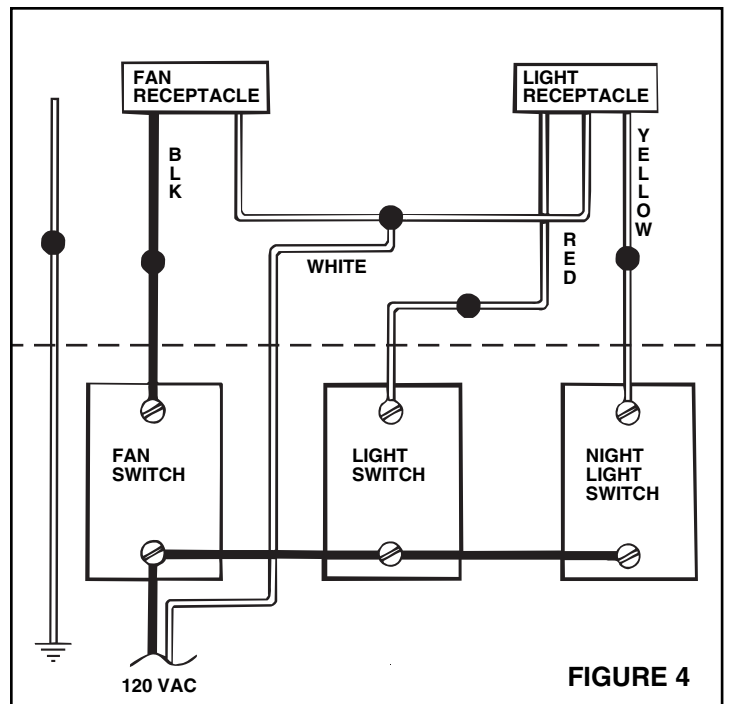

FIGURE 4
1. Run 120vAC house wiring from wall switches to fan location, neutral (white), ground (bare copper), and three switched hot leads. See Figure 4.
4. Refer to Figure 4. Connect white wires from the fan and light receptacles to white (neutral) wire from the supply. Connect black wire to wire from fan switch. Connect red wire to wire from light switch. Connect yellow wire to wire from night light switch.
Plan ducting wiring before proceeding with installation. Refer to **Figure 4 for wiring**. **CAUTION: Check area above planned location to be sure that:**